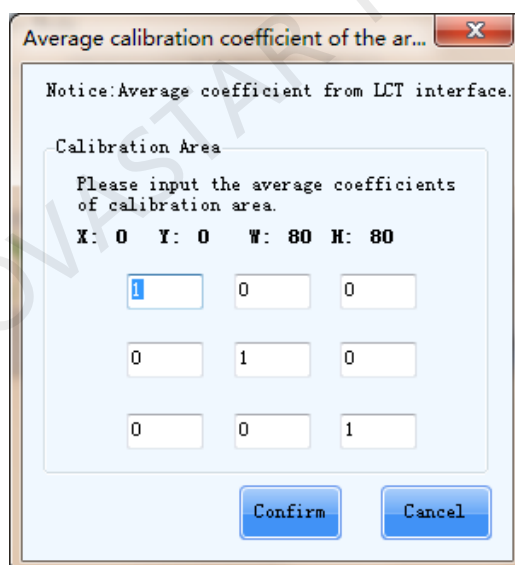
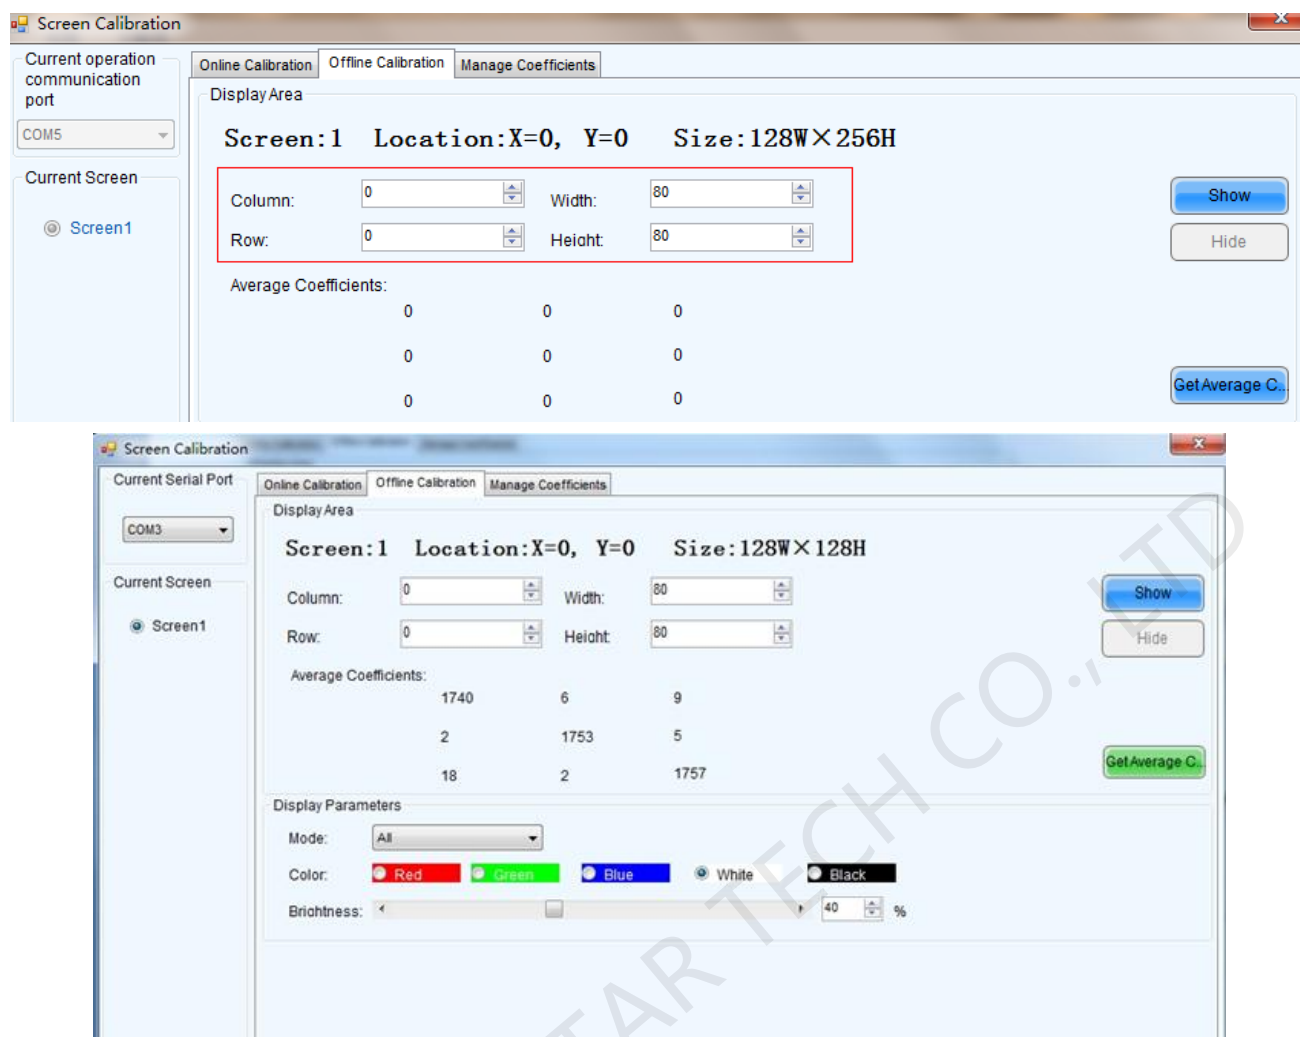

Fig.5-18 Average calibration coefficient of the area
Fig.5-19 Offline-Get Average coefficient
Respectively fill the coordinate, width and height (X, Y, W and H) of the new module area and the collecting area of the Fig. 5-18 into the display area of Fig. 5-19, and then click "Get average coefficient" to get the average coefficients of the new module area and the area to be collected.
- 4) Input the average coefficient of the collecting area at the average coefficient to be calibrated window of NovaCLB-Screen (as shown in Fig. 5-18).